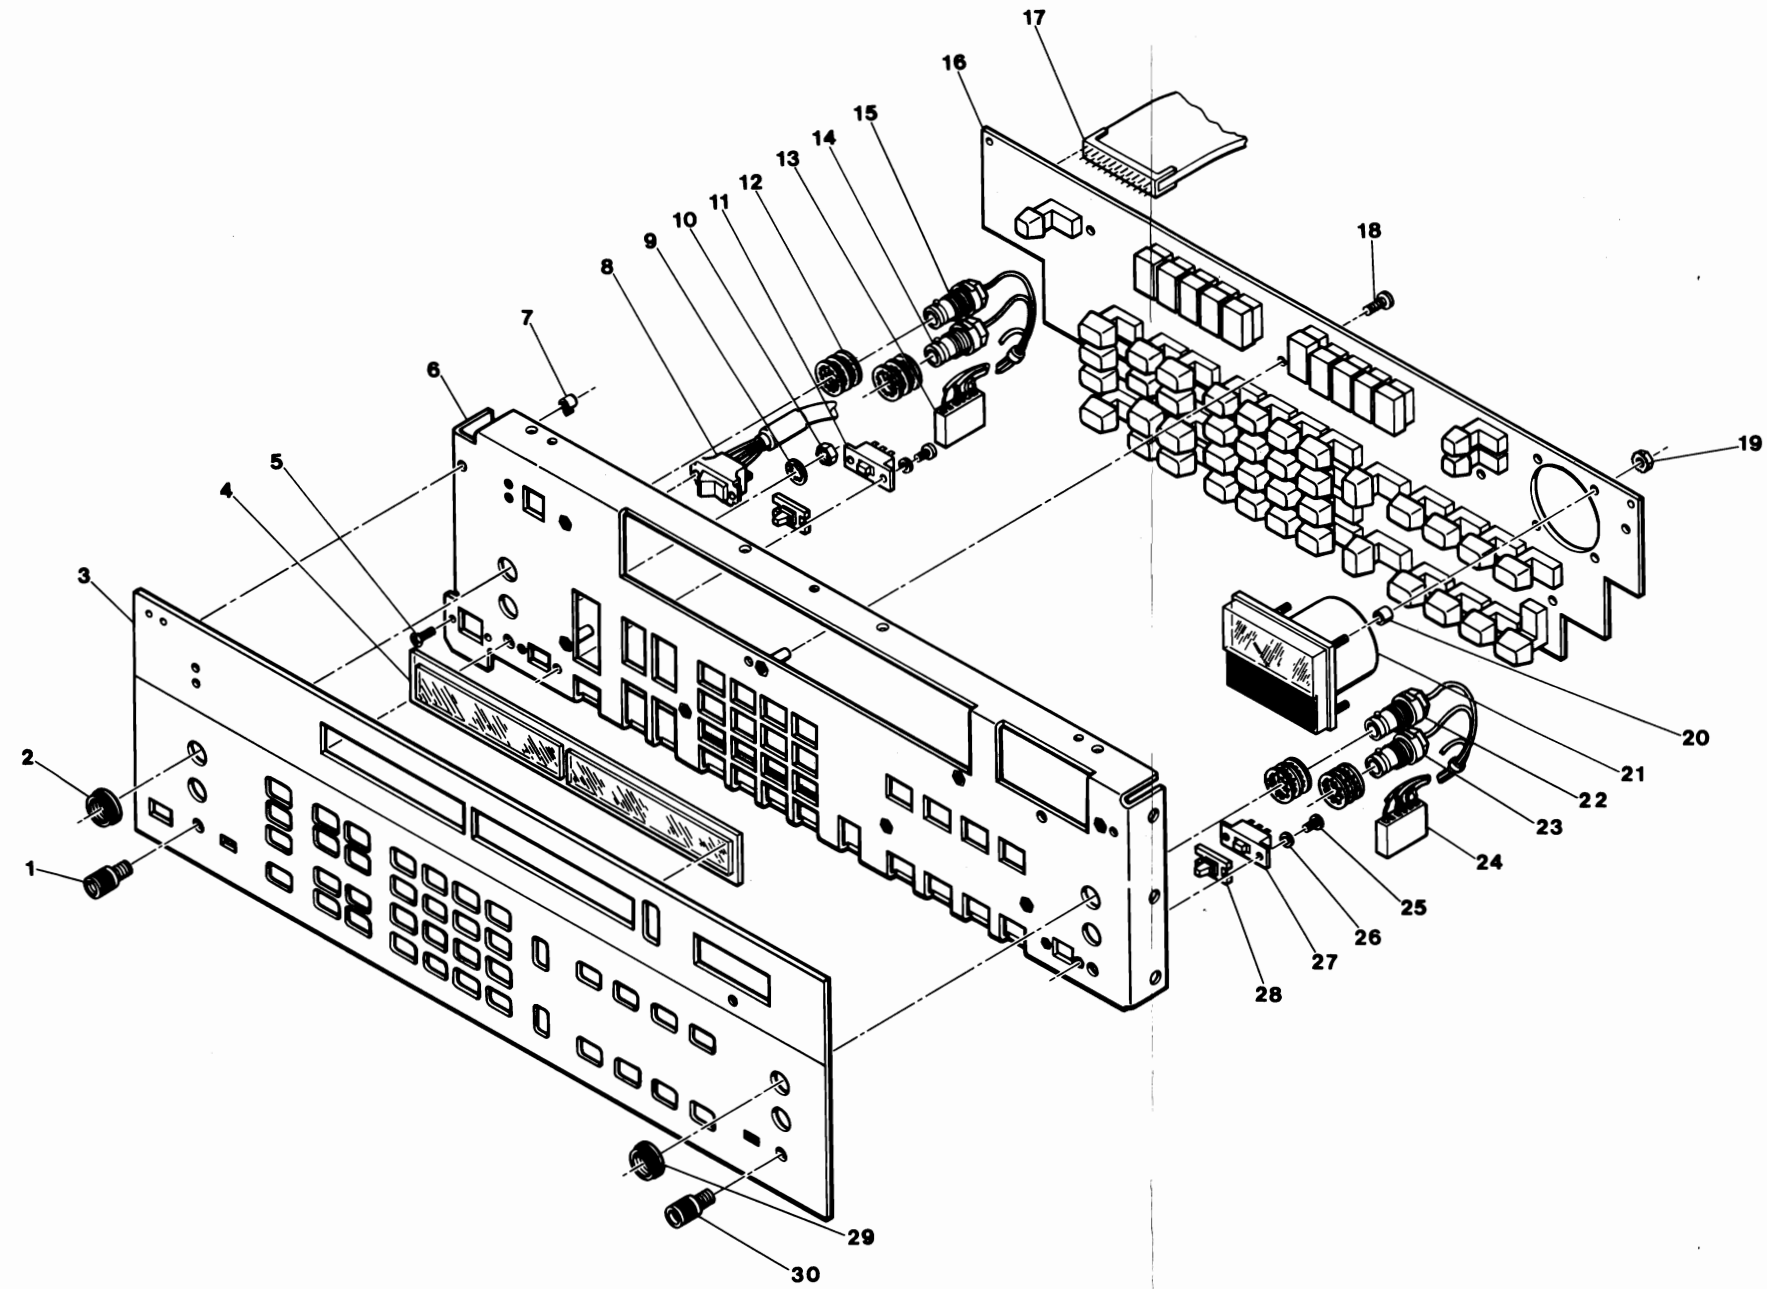

Figure 8-125. Front-Panel Illustrated Parts Breakdown
3. Remove the front-panel assembly. The circuit board is shown in Figure 8-125.